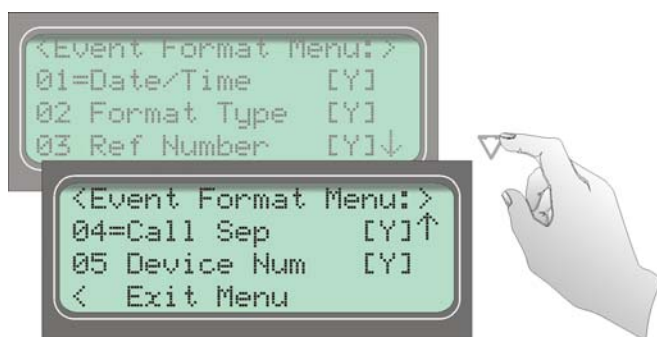

Figure 4-15 Event Format Menu Items
4. Press  for event format menu items. (See Figure 4-15.)